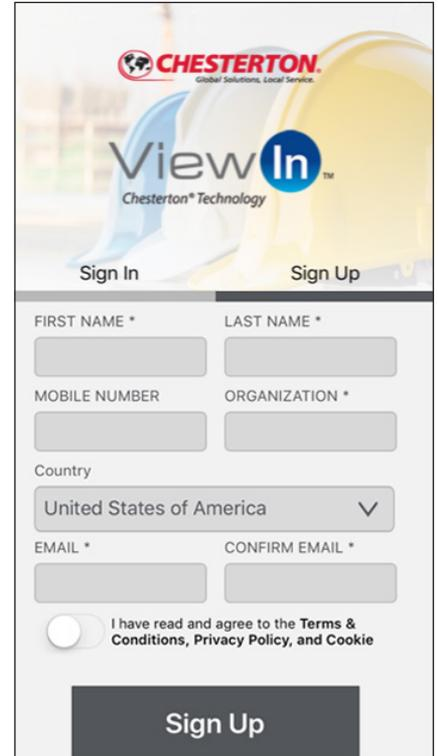

Figure 3
- Complete the required fields: Name, Organization, Country, and email (Figure 3).